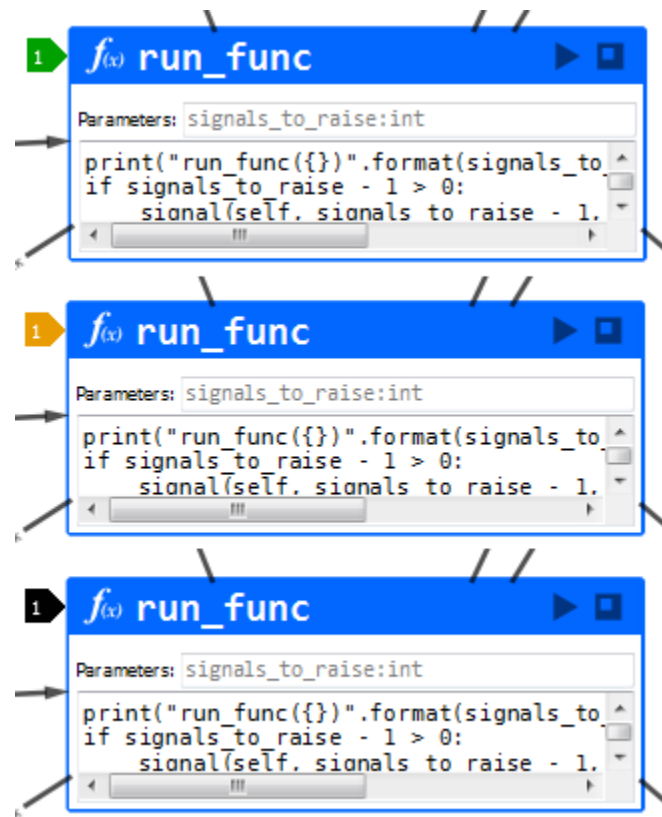

Fig. 3.31: Function parts displaying green, amber, and black event indicators each with one event in the queue.
Several indicators and markers, shown in Figure 3.30 and Figure 3.31, are used on the parts to display special part roles and flags either during part configuration or while running a simulation. These include:
- Event indicator: appears as a tag on the left side of the part (see Figure 3.31) indicating the part has an associated event waiting on the *Event Queue*. The number on the indicator signifies the number of events associated with the part. The indicator also appears on all parent actors of the part. Double-clicking on an event indicator will